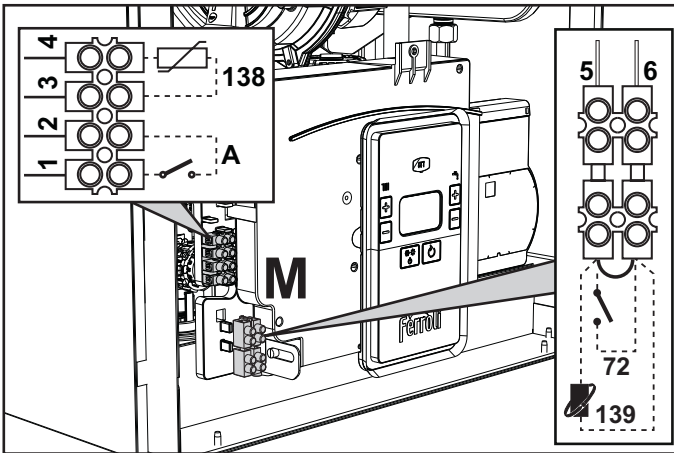
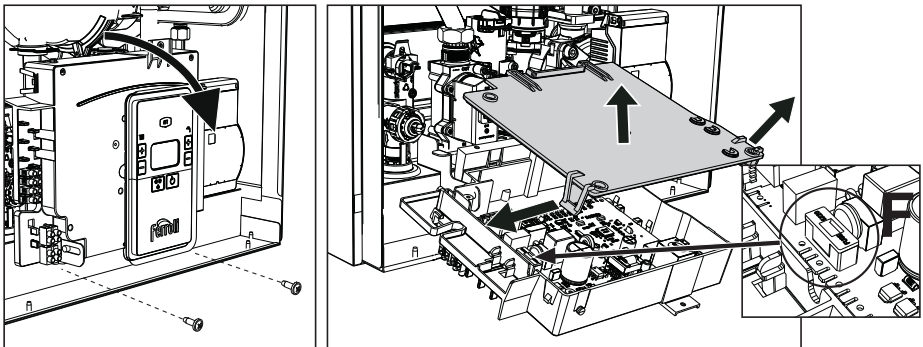

fig. 18
fig. 19
Remove the front panel (*** 'Opening the front panel' on page 261 ***) to access the terminal block (M) and fuse (F) by proceeding as follows (fig. 18 and fig. 19). **The terminals indicated in fig. 18 must be with voltage-free contacts (not 230V).** The arrangement of the terminals for the various connections is also given in the wiring diagram in fig. 45.
ON/OFF (A fig. 19) configuration